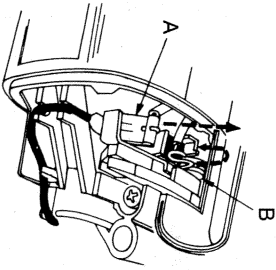

FIG. 1
Your tool is equipped with the Black & Decker brush checkpoint system. When the brushes become worn out the tool will automatically stop and prevent damage to the motor. To replace the brushes, first remove the 7 screws from the side of the tool and remove the handle cover half. With the brush area exposed remove the brush terminal (A) in the direction shown in figure 1. Lift the end of the spring (B) out of the way and pull the brush out of the tool. Hook the spring on the edge of the brass brush holder as shown in figure 1-A. Lift the brush spring up out of the way again and replace the brush. Be sure to let the spring down against the brush as shown in figure 1. Make sure that you tuck the brush lead under the field case as shown in figure 1. Install the handle cover half and securely tighten all screws.